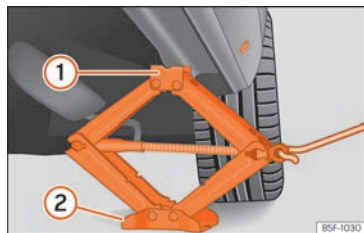

Fig. 38 Cross member: positioning the jack on the vehicle.
- Turn the jack* crank handle, located below the strut support point, to raise it until the tab ① »» Fig. 38 is below the housing provided.
- Align the jack* so that tab ① "grips" onto the housing provided on the strut and the mobile base ② is resting on the ground. The base plate ② should fall vertically with respect to the support point ①.